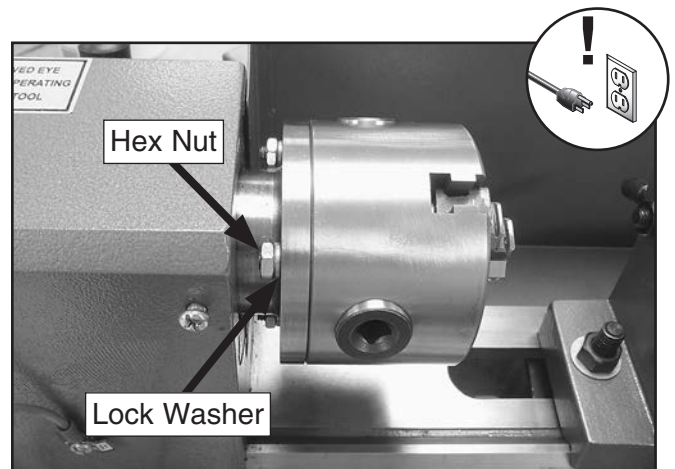

Figure 21. Chuck secured against backplate.
5. Use a lock washer and hex nut on each chuck screw to secure chuck (see **Figure 21**). Tighten hex nuts evenly a small amount at a time in multiple steps.